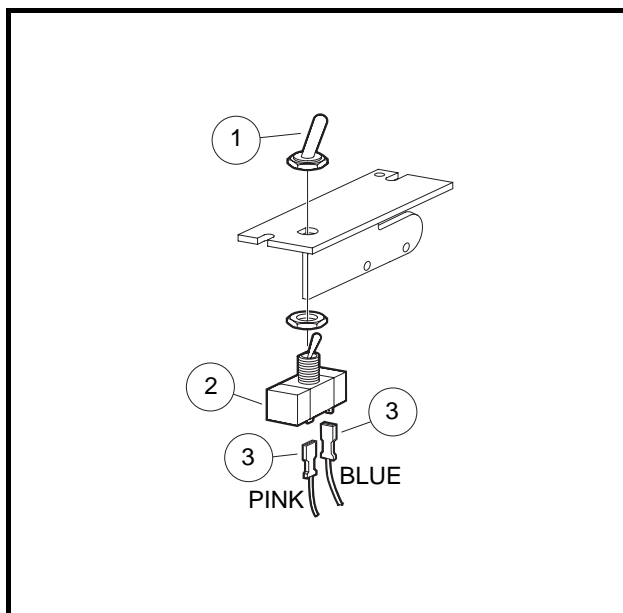

Figure 12-6 Tow/Run Switch
3. Remove Tow/Run switch boot/hex nut (1) (**Figure 12-6, Page 12-6**).
4. Remove Tow/Run switch (2) from bracket.
5. Disconnect the two wires (3) and remove switch.
1. Installation is reverse of removal. Make sure flat on switch is aligned with the flat on bracket. Tighten Tow/Run switch boot/hex nut (1) to 16 in-lb (1.8 N·m) (**Figure 12-6, Page 12-6**).